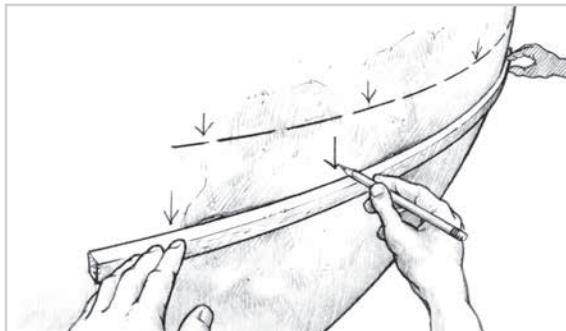

Figure 14-9 Use a long batten to locate the high and low areas and judge the amount of fairing compound required
2. Determine and mark the locations for the guides. If you are fairing a curved surface like a hull, you may need to provide at least three parallel profile guides to describe the curve. Curves with a smaller radius and complex shapes may require more or closer spaced guides. Use a long batten to locate the high spots and determine how much fairing compound will be required to fill the low areas to a level above the bottom of the batten. Mark the high spots where the batten touches the surface (Figure 14-9).